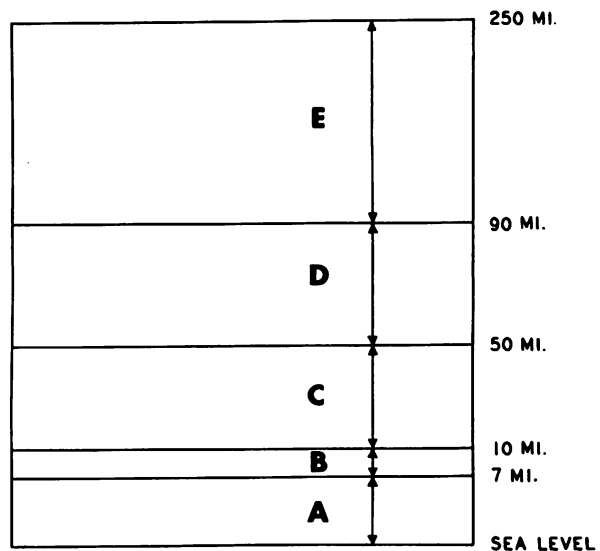

Figure 1A.—Diagram representing the atmosphere divided into regions.
27. If the air density at the bottom of region A in figure 1A is approximately 0.075 pounds per cubic foot, what is the density at the top of region A?
28. Because of the continuously decreasing air density, the drag on a rising missile decreases. The decrease in drag per unit change in altitude is greatest in the region of figure 1A labeled
1. top of region A in figure 1A
2. middle of region A in figure 1A
3. middle of region B in figure 1A
4. top of region C in figure 1A
30. The temperature remains fairly constant in the region of figure 1A labeled
31. If the air temperature at sea level is 30° F., the air temperature in the middle of region A in figure 1A is about
32. During its rise a missile is exposed to the greatest atmospheric temperature variation rate in the region of figure 1A labeled
1. region D in figure 1A only
2. regions C and D in figure 1A
3. regions D and E in figure 1A
4. region E in figure 1A only
34. If a rising missile is traveling at a constant speed of 580 knots, in which of the following regions in figure 1A does it exceed Mach 1?